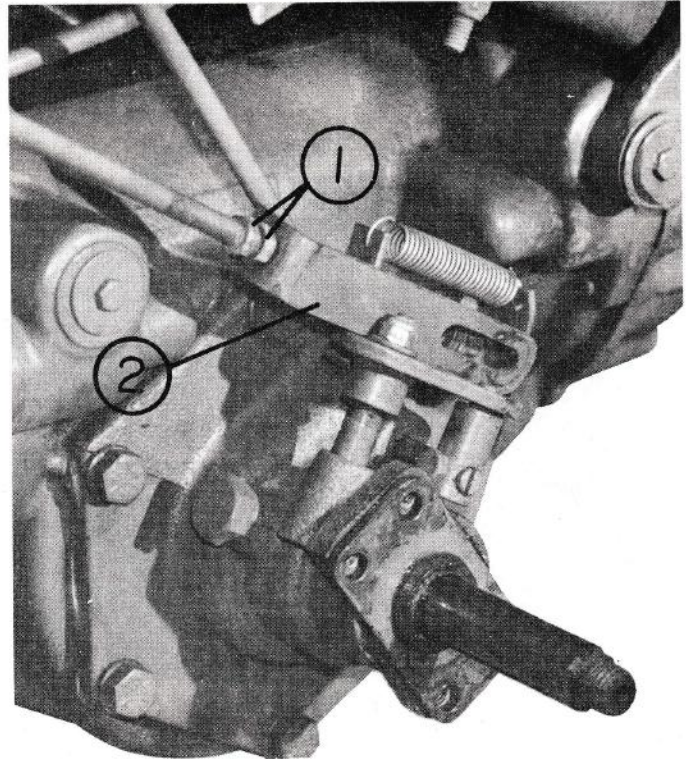

Fig. 6
- Slide the adjustment bracket on the brake rod. See fig. 6.